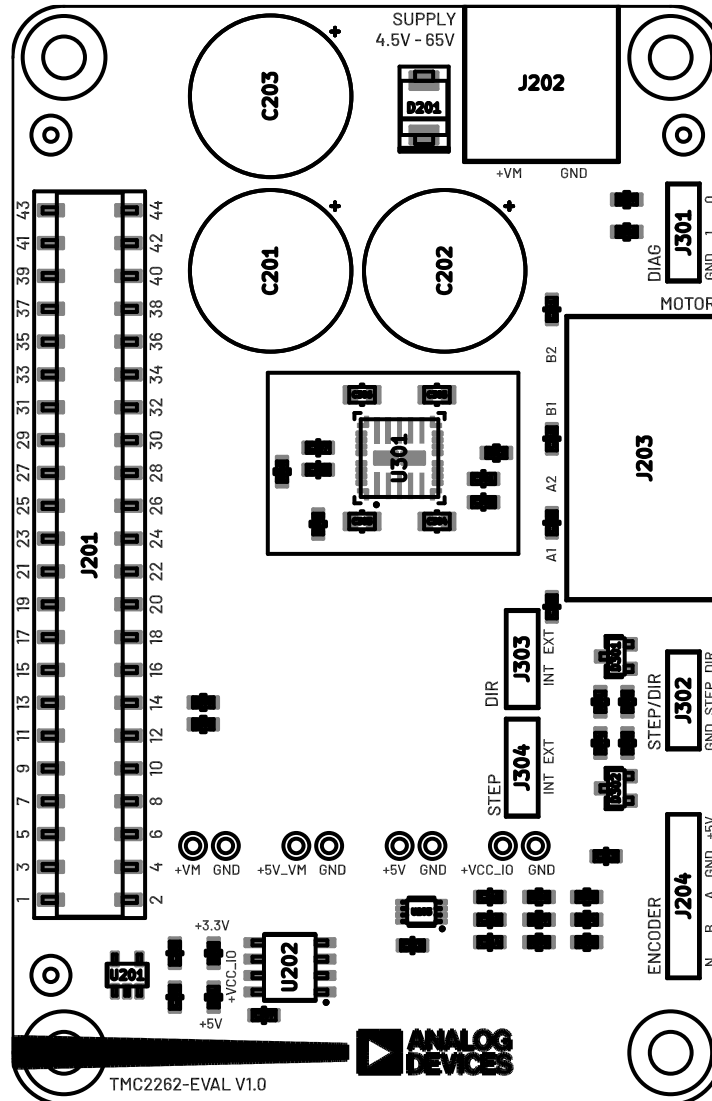

Figure 5. TMC2262-EVAL Component Placement and Silkscreen
2. Plug the selected motor to connector J203, which is labelled as *MOTOR* on the board's silkscreen (Figure 5). Observe the correct order of the A1, A2, B1, and B2 motor phases.
3. (Optional) Plug the ABN Encoder to pin header J204, which is labelled as *ENCODER* on the board's silkscreen (Figure 5).
5. Plug the power supply cable to Connector J202, which is labelled as *SUPPLY* on the board's silkscreen (Figure 5). Ensure the polarity is correct, and check the power supply is off before connecting it to the board.
The TMC2262-EVAL has one power, one motor connector, and five pin headers. These can be found in the component placement drawing in Figure 5 and are described in detail in Table 2.
In addition to the connectors shown in Table 2, some unpopulated THM test points are available in the TMC2262-EVAL. See the component placement drawing in Figure 5. The additional connectors are described in Table 3.